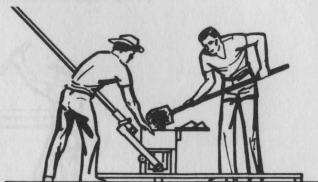
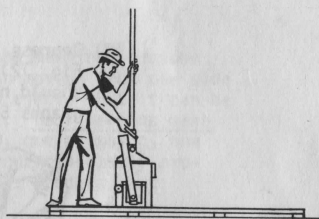
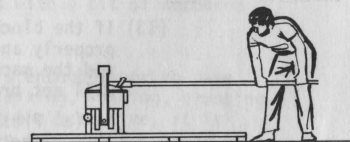

Fig. 8 - Filling the Box.
Fig. 9 - Raising the Lever.
Fig. 10 - Lowering the Lever.
- (1) Open the cover.
- (2) Make sure the piston is all the way down. If it is part way up it will not be possible to get the correct amount of mixture into the box.
- (3) Dump the proper amount of soil-cement mixture into the box (see Fig. 8). The supervisor should determine the correct amount of mixture for each block - a measuring box can be used to make sure that the same amount is used each time. Uniformity in loading is absolutely necessary for producing uniform blocks.
- (4) Fill the corners of the box to the top so that the corners of the finished block will be well pressed.
- (5) Press a bit in the corners with your fingers.
- (6) Replace the cover.
- (7) Move the lever to a vertical position, letting the lower rollers fall into place (see Fig. 9).
- (8) Disengage the lever latch.
- (9) Move the lever to a horizontal position on the side opposite the lower rollers. (compression cycle) (see Fig. 10). If the right amount of mixture is used, one man of average weight should be able to move the lever down alone with only two or three pushes. The lever must be